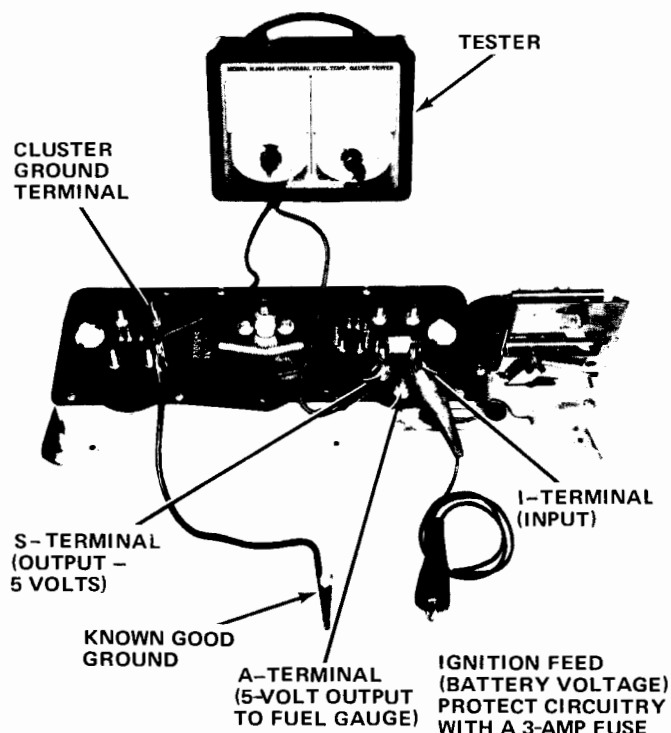

Fig. 3-69 Testing Temperature Gauge—Cherokee-Wagoneer-Truck
(1) Disconnect battery negative cable.
(2) Remove instrument cluster and disconnect all electrical connections.
(3) Connect a jumper wire from cluster ground terminal to known good ground (fig. 3-69).
| TEST RESULTS With Tester Connected as Shown in Figure 3-69 | POSSIBLE LOCATION OF TROUBLE |